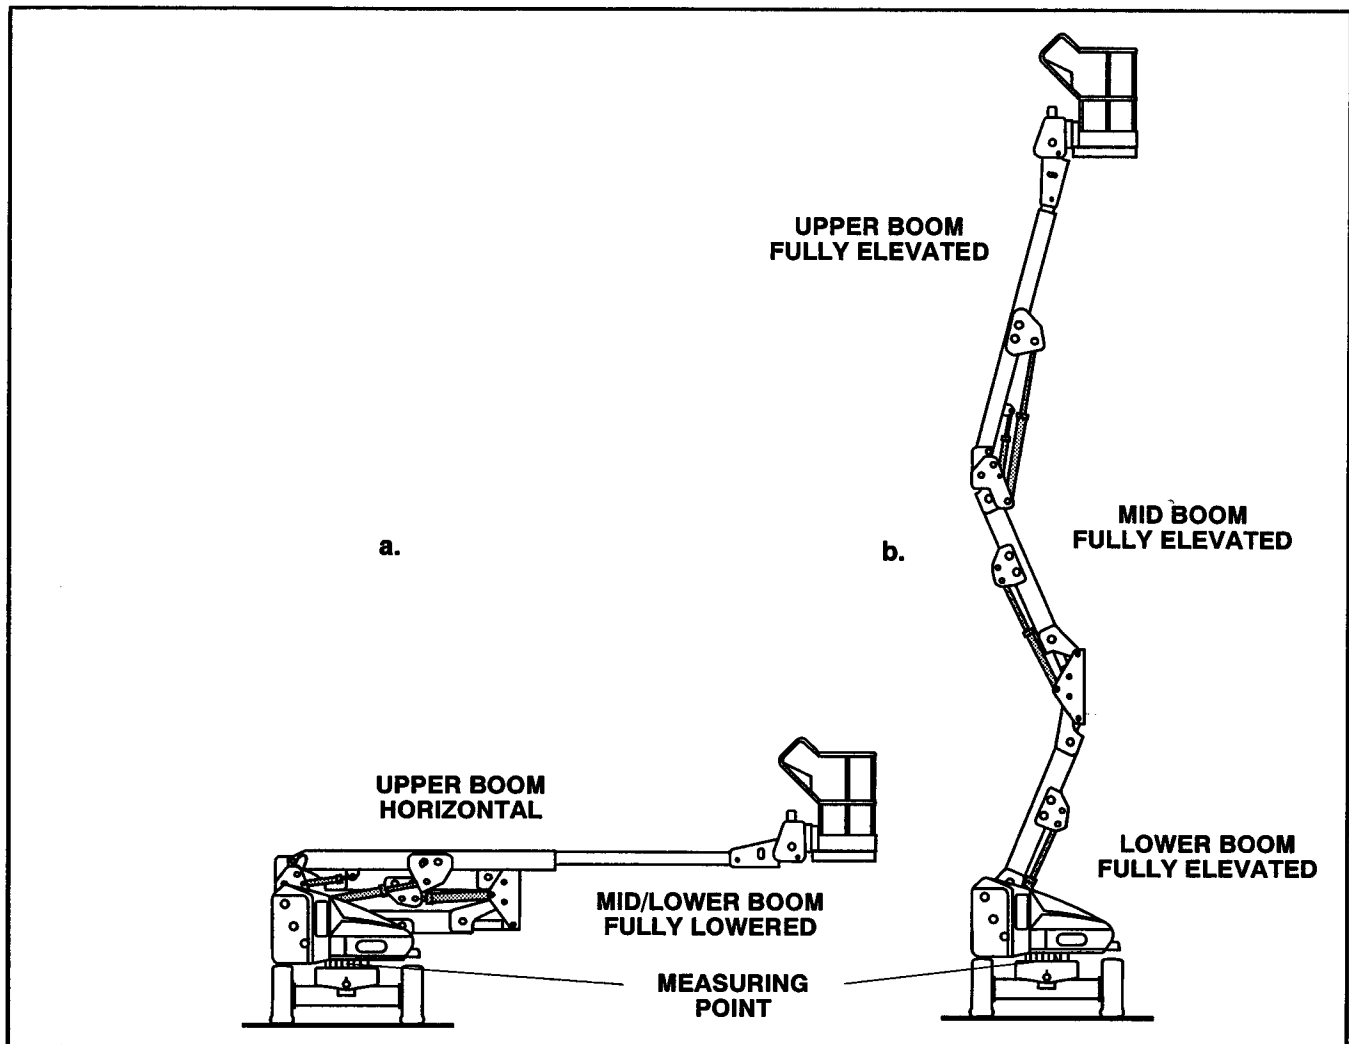
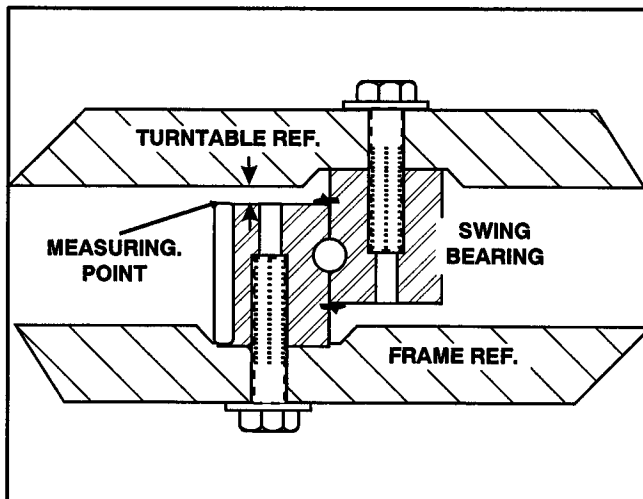

Figure 2-28. Swing Bearing Tolerance Boom Placement.
Figure 2-29. Swing Bearing Tolerance Measuring Point.
1. With the boom positioned over the side of the machine, the Upper Boom horizontal with telescope fully extended and Mid/Lower Boom stowed, (See Figure 2-28 a.), using a magnetic base dial indicator, measure and record the distance between the swing bearing and turntable. (See Figure 2-29.)
2. At the same point, with the boom positioned over the side of the machine, the Upper Boom fully elevated and the Mid/Lower Boom fully elevated, (See Figure 2-28b.) using a magnetic base dial indicator, measure and record the distance between the swing bearing and turntable (See Figure 2-29).